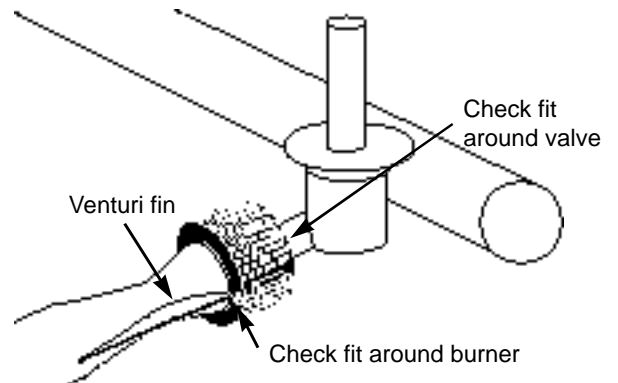

Figure 16
15. Reinstall the Spider Stopper Guards. Slightly rotate the Spider Stopper Guards so that the seams are in line with the Venturi fins. There should be no gaps in the seams or in the fit around the burners and valves. Figure 16.